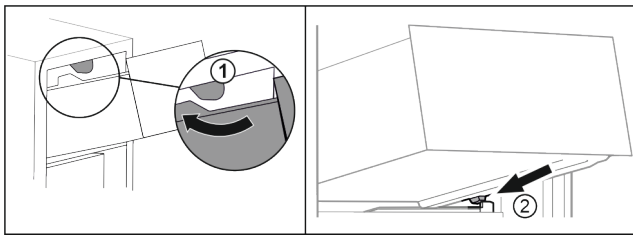

Fig. 21
- ▶ Guide the drawer around the upper stoppers Fig. 21 (1).
- ▶ Place the drawer on the molded ribs behind the lower stoppers with the drawer tilted up at the front Fig. 21 (2).